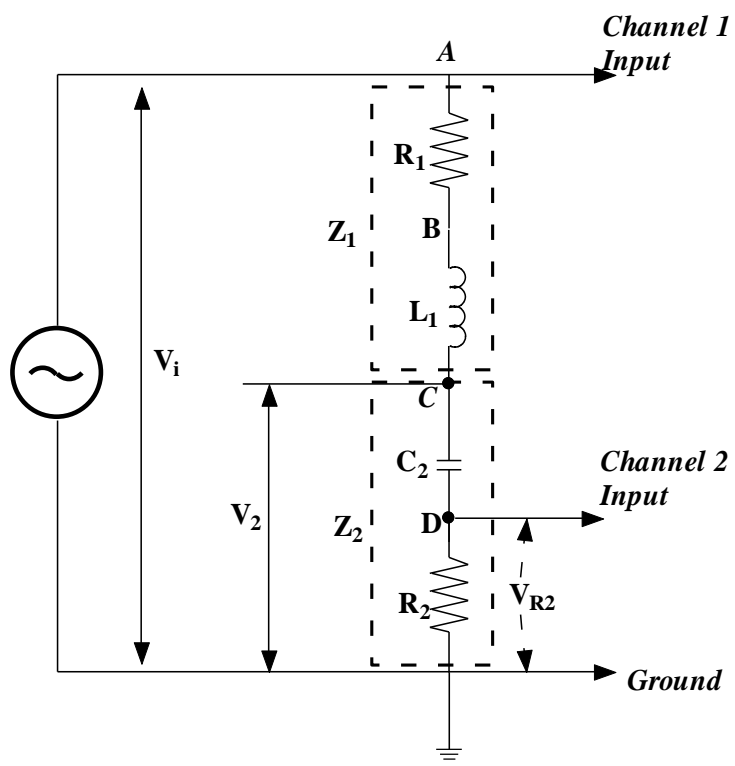

Figure 3
- 1.2 Connect the signal generator and components as illustrated in Fig. 3.